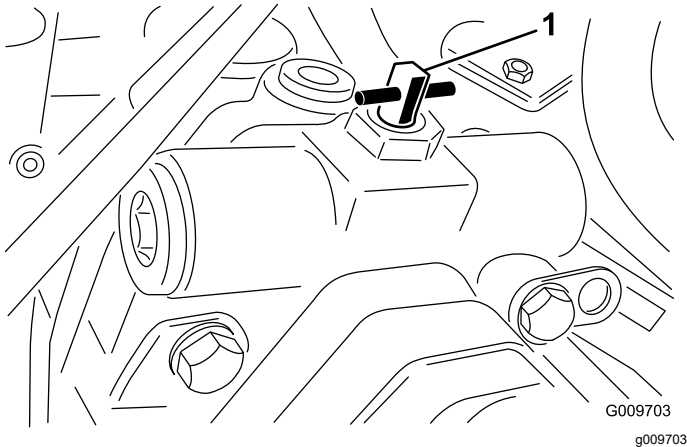

Figure 46
6. Close the tow bypass valve by rotating it back 90° (1/4 turn) before starting the engine. (Figure 46).